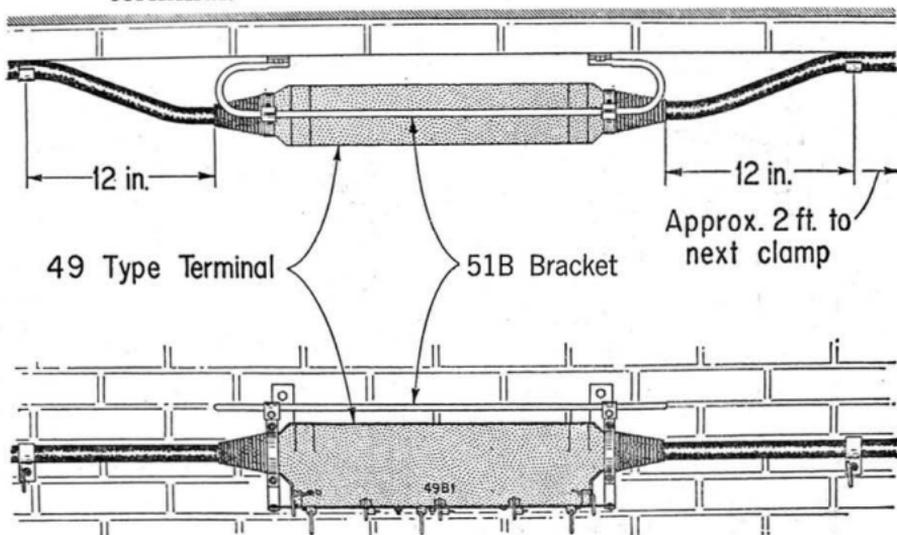

Fig. 15
4.08 Fig. 15 illustrates a typical mounting of the 49-type terminal.